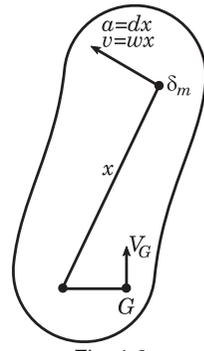

Fig. 1.2
Torque (T). It is the moment of force about the axis of rotation. In Fig. 1.2, the force required to accelerate $\delta_m = \alpha_x \delta_m$. Thus, torque to accelerate the body, $T = \sum_x (\alpha \cdot x \delta_m) = x \sum (\delta_m x^2)$ or $T = I_0 \alpha$.
In Fig. 1.2. Angular momentum = $\sum \delta_m \omega_x \cdot x = \sum \delta \omega x^2 = \omega I_0$. And by parallel axes theorem,